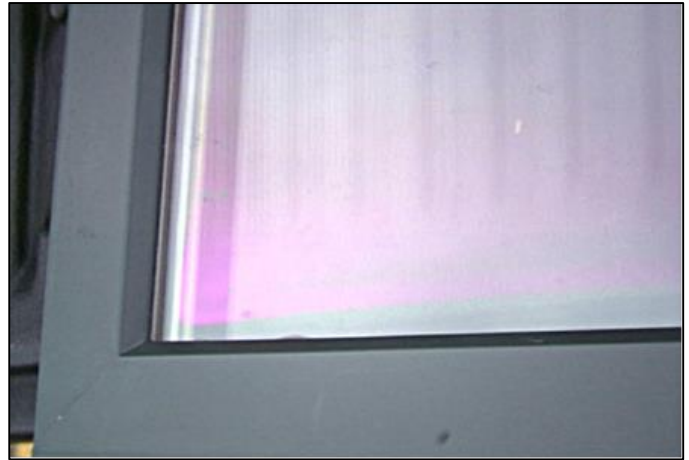

Figure IG15-02 Photograph of chemical fogging on the LoE surface of the IG unit. Solvent vapors result in a purple color when viewed in reflection
- Chemical fogging of the airspace from vapors of the migratory materials (See figure IG15-02)